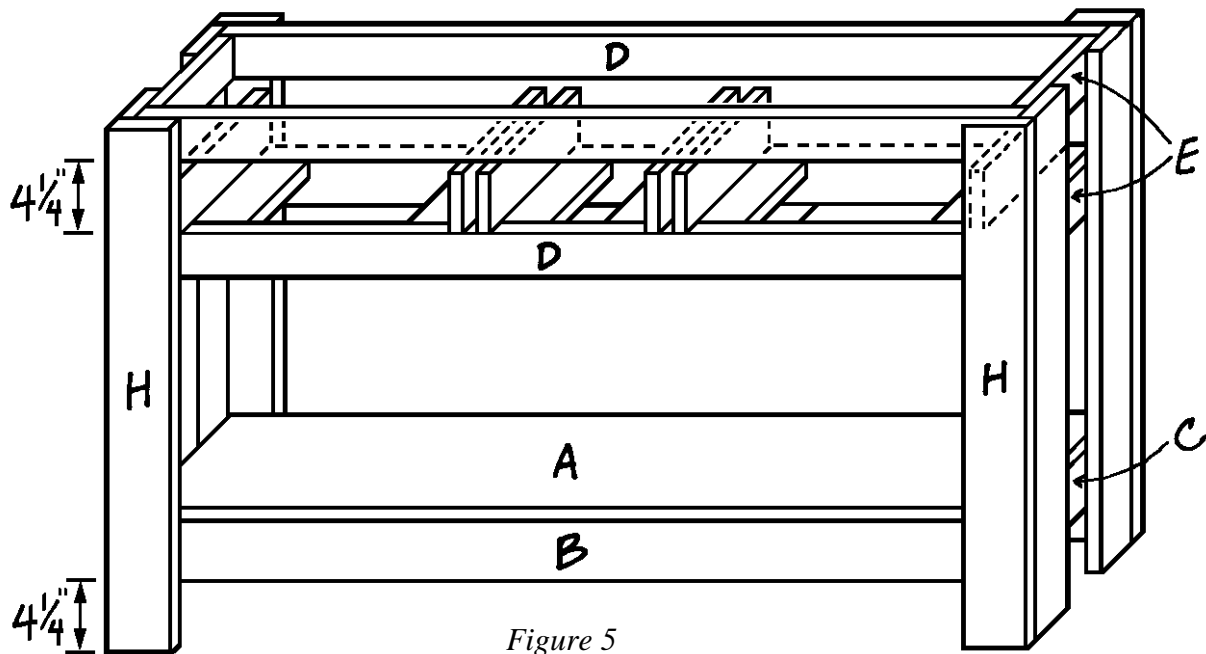

Figure 5
- Cut eight 30"-long legs (H) from 1 x 4 pine. Before assembling the legs, study *Figures 5* and *6* to see how they're attached to both the inner support assemblies and the shelf assembly. The tops of the legs (H) will be flush with the upper edges of the inner support assembly (the one without the drawer guides attached). The inner support assembly with the drawer guides attached will be positioned 4-1/4" below the bottom edge of the first inner support assembly, and the bottom edge of the shelf assembly will be positioned 4" from the bottom of the legs. The front and back legs (H) will overlap the edges of the side legs (H).
4. Position the assembled legs as shown in *Figures 5 and 6*; then glue them to each of the three center assemblies. Secure with two 1-1/4" screws at each joint.